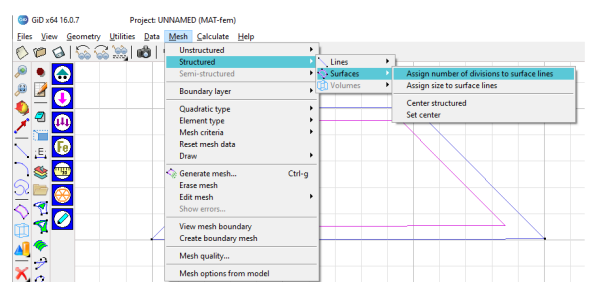

Fig. 22 - Assigning structured mesh parameters to surface.
6. Go to **Mesh > Structured > Surfaces > Assign number of divisions to surface lines** (Fig. 22) and select the trapezoidal surface.